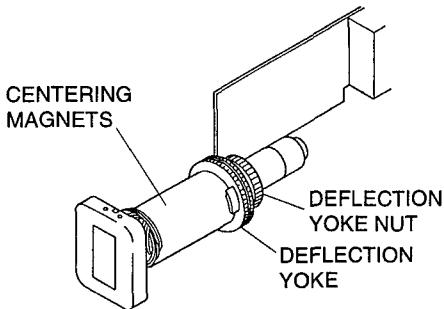

Fig. 3-51
(1) Deflection Yoke Position Adjustment (Fig. 3-51)
(2) EVF Centering Adjustment (Fig. 3-51)